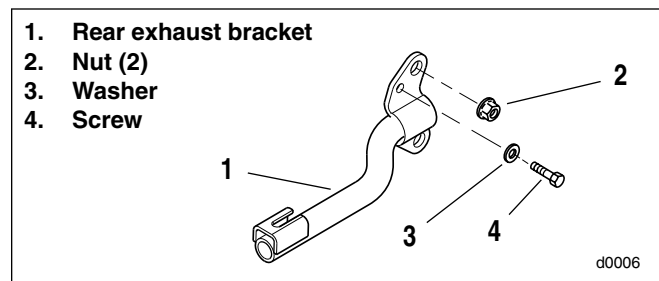

Figure 1. Rear Exhaust Bracket Mounting
5. See Figure 1. Remove screw (4), washer (3), two nuts (2) and rear exhaust bracket (1) from transmission case.